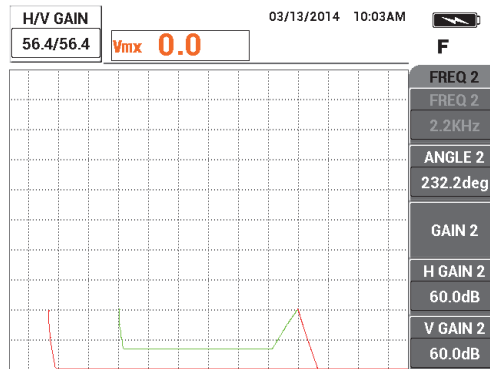

Figure 5-120 Adjusting the amplitude of the frequency 1 signal
8. Press the GAIN key (**dB**), and then adjust the amplitude of the frequency 1 signal so that it is exactly 6 divisions away from the null point (on the left side) [see Figure 5-120 on page 212].